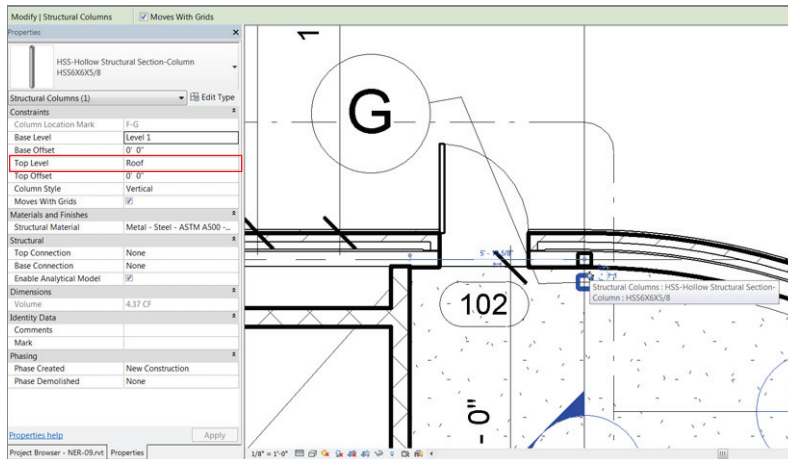

FIGURE 8.26: Setting the column's top level to extend to the roof
18. In the Properties dialog, make sure Top Level is set to Up To: Roof, as shown in Figure 8.26 (just to check).